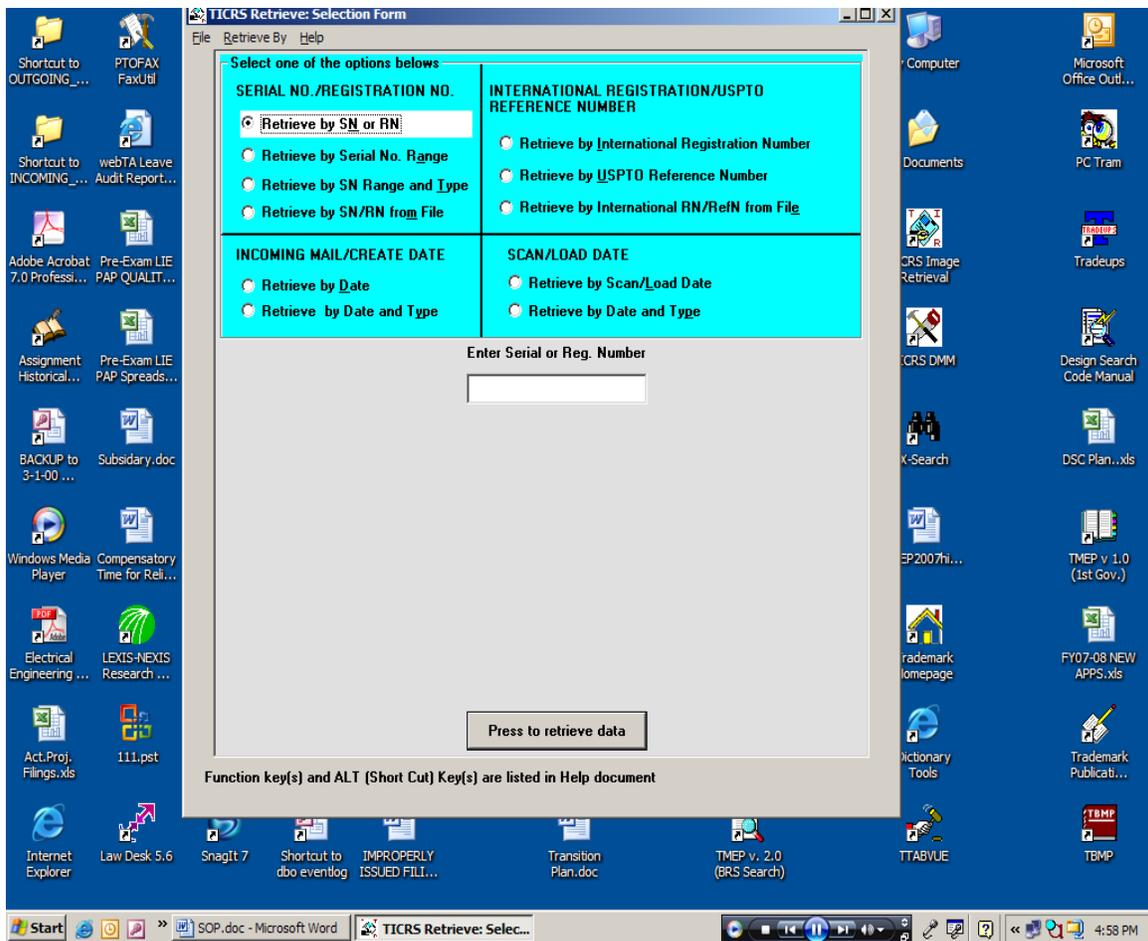

Figure 1-11: The TICRS Retrieve: Selection Form Pop-up Box
Step 2: With “Retrieve by SN or RN” selected, enter the serial number in the “Enter Serial or Reg. Number” file of the TICRS Retrieve Selection Form pop-up box (Figure 1-11).